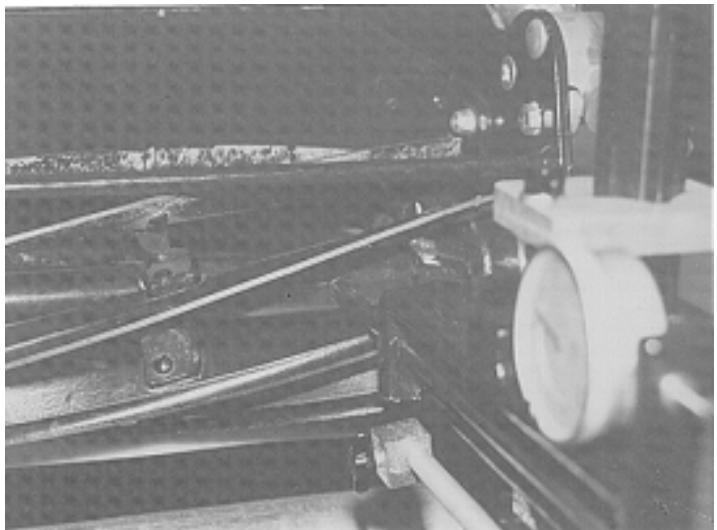

Fig. 16
- A. Place set up gage on the right hand side of reel approximately 1" from the end. (See Fig. 16)